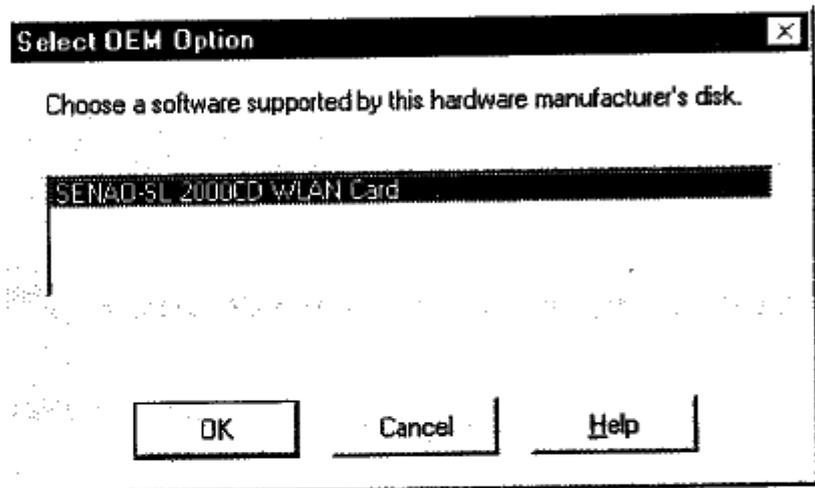

Figure 3-27
7. In the "Select OEM Option", click "OK" as shown in Figure 3-27.